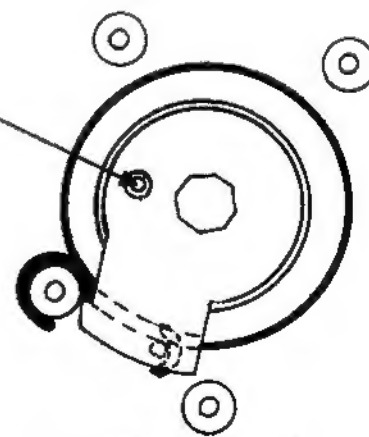

FIGURE 4
- O. See Page 7, Fig. 4. You will now wind the knob return spring by turning the stop plate assembly counter clockwise until it goes beyond the number 3 threaded boss while applying constant downward pressure on the stop plate assembly to prevent the knob return spring from popping up.